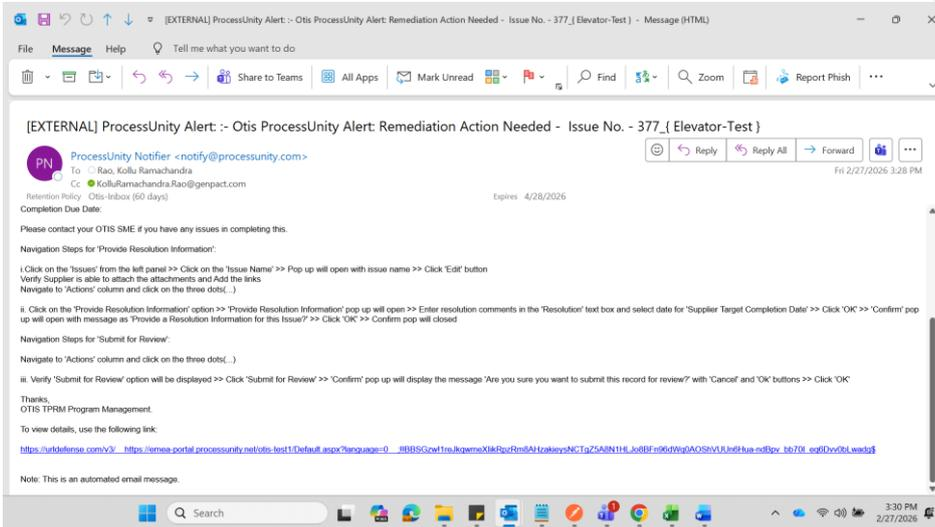

Figure 25
1. Supplier receives an email notification about the issue. When SME send the issue to supplier with status as **“02. Issue with Supplier”** (Refer figure 25)